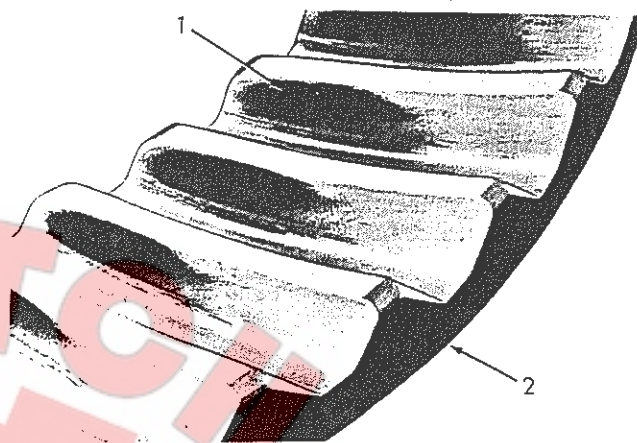

Fig. 12 Satisfactory Tooth Contact - No Load (T-31450)
- d. Correct tooth contact pattern is shown in Fig. 12. If contact pattern is NOT satisfactory, add or remove pinion depth adjusting shims Fig. 1 (22), until pattern is satisfactory.